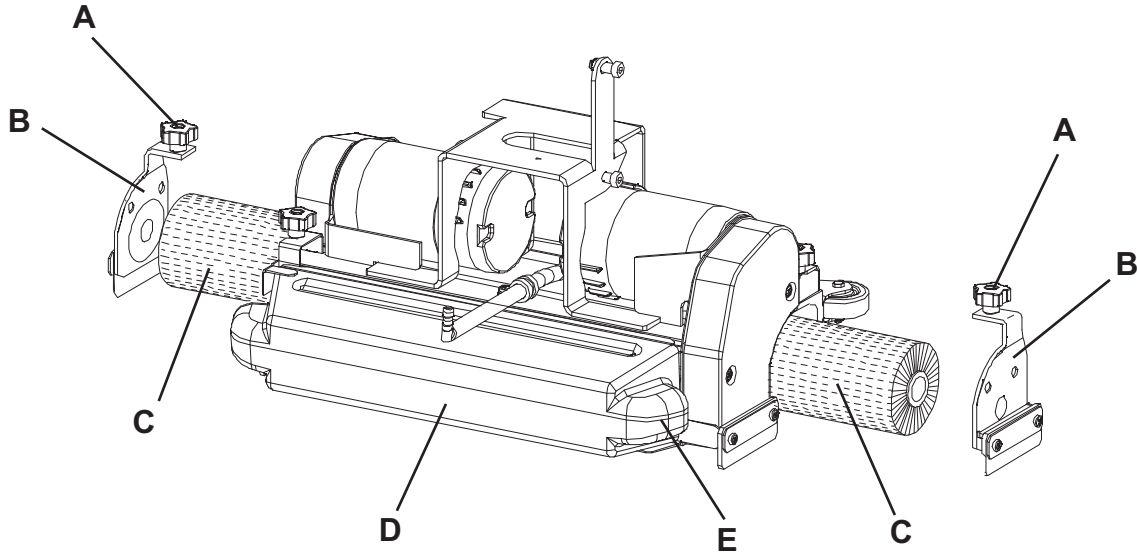

Figure 3
1. Turn the ignition key (80) to "0".
2. Lift the cylindrical brush deck by pressing the pedal (11).
3. Remove the handwheels (A, Fig. 3) and the lids (B) by pushing them downwards and pressing on the handwheels.
4. Install the cylindrical brushes (C).